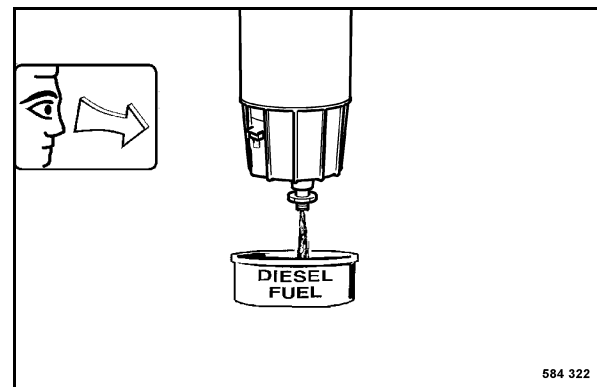

Fig. 146
- Slacken the drain plug (Fig. 146) for a few turns and catch running out fuel.